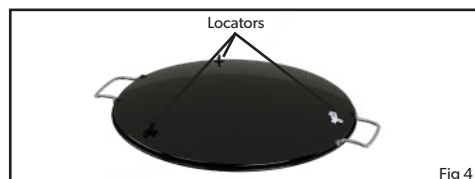

Fig. 4
- To prepare the Skottel Braai for use place it onto the burner pan (F) so that all three locators (V) (Fig.4) will properly mate with the lip on the circumference of the burner pan (F) thus ensuring a stable fitment.